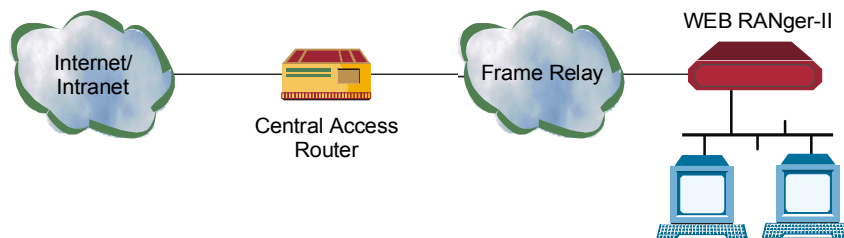

Figure 4-3. Frame Relay Hardware Setup
- Frame Relay** A packet-switching protocol for connecting devices on a WAN (see Figure 4-3).